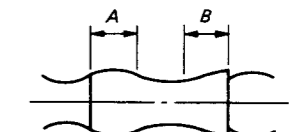

Fig. 1-4-12 Adjustment points
5. If the A section in Fig. 1-4-12 does not meet the specification, adjust the S-guide roller in up or down direction.
6. If the B section in Fig. 1-4-12 does not meet the specification, adjust T-guide roller in up or down direction.